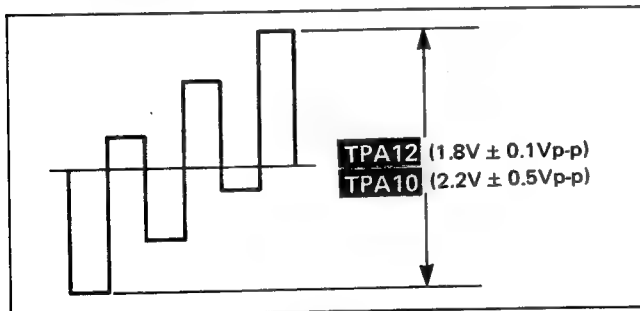

Fig. 30
- 3) Connect an oscilloscope between **TPA12** and chassis GND. When adjust Sub colour VR (R629) to achieve  $1.8V \pm 0.1V_{p-p}$  on the oscilloscope as shown in Fig. 30